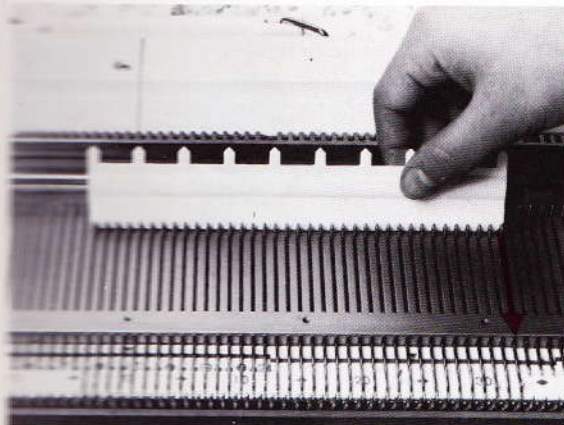

Fig. 40
- With the flat needle selection bar, bring 40 needles to B position (20 on each side of the figure 0 at the centre of the needle bed, fig. 40).